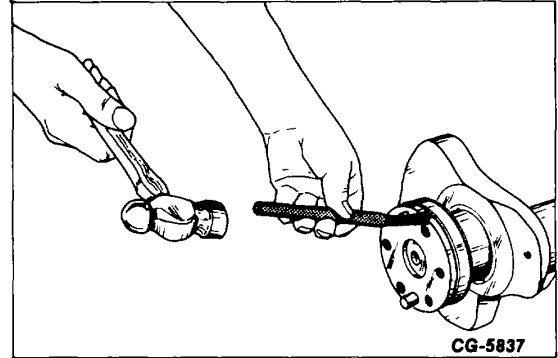

Figure 10. - Removing Wear Sleeve with Muffler Chisel
7. Remove the rear oil seal wear sleeve using a muffler chisel such as Mac Tool No. MC-22 or equivalent (obtain locally). Hold chisel flat against the crankshaft to prevent damage by the chisel's point as shown in Fig. 10.